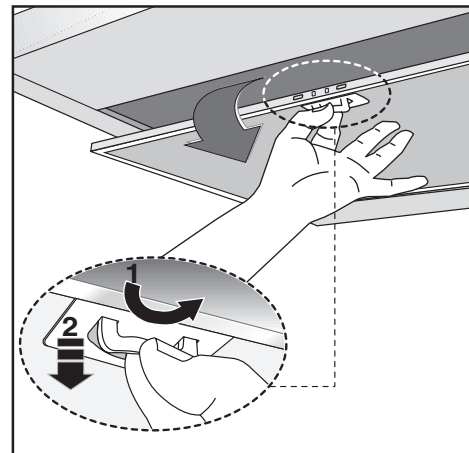

Fig.5
• The minimum distance between the support surfaces of the cooking pots on the cooker top and the lowest part of the cooker hood must be at least **65 cm**. If a connection tube composed of two parts is used, the upper part must be placed outside the lower part. Do not connect the cooker hood exhaust to the same conductor used to circulate hot air or for evacuating fumes from other appliances generated by other than an electrical source. Before proceeding with the assembly operations, remove the anti-grease filter(s) (Fig.5) so that the unit is easier to handle.